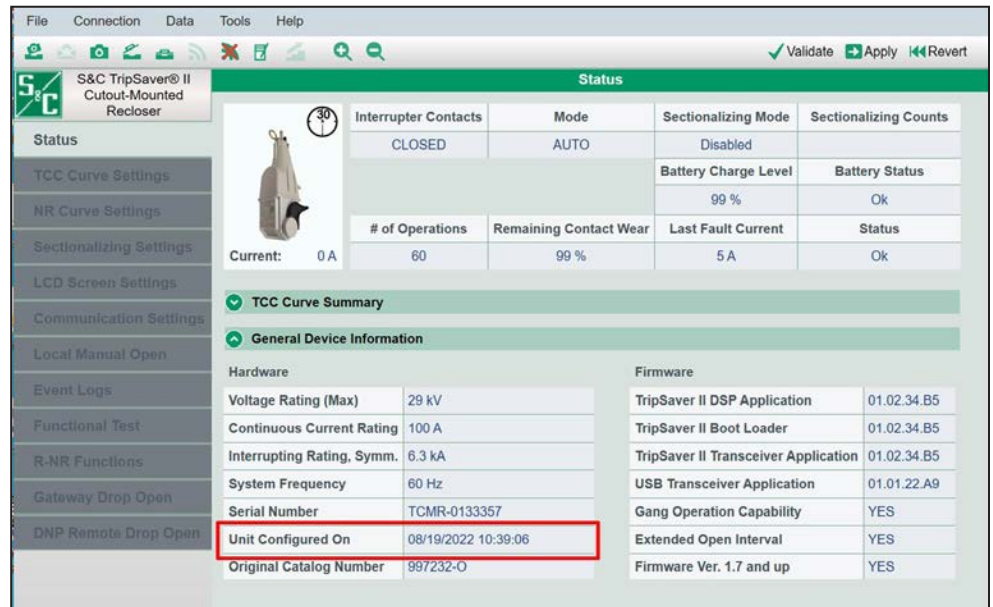

Figure 122. The Unit Configured On field.
- STEP 5.** Make a change to the device configuration. Any change will prompt the device to initialize the configuration data in the register. Validate the change according to the directions in the “Validate” section on page 33 and then click on the **Apply** button. The **Unit Configured On** field should now show the correct information. See Figure 122.